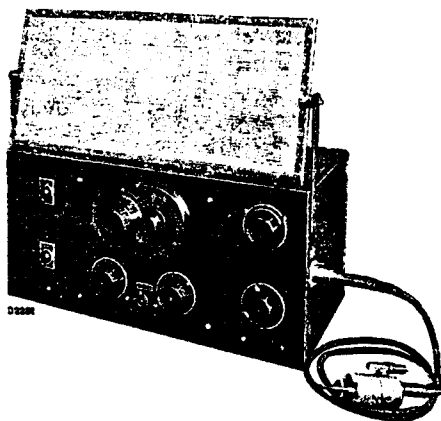

Fig. 1
1. Service oscillator GM 2880 F (fig. 1) with artificial aerial.
4. Insulated trimming plug-in key 6 mm.